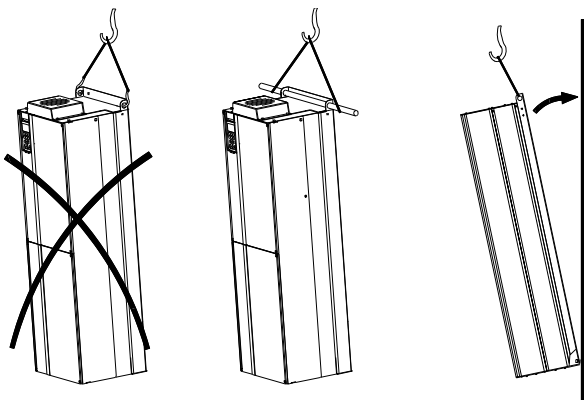

Fig. 1 Recommended lifting method
1. Mark the mounting holes on the floor. See fig. 1.